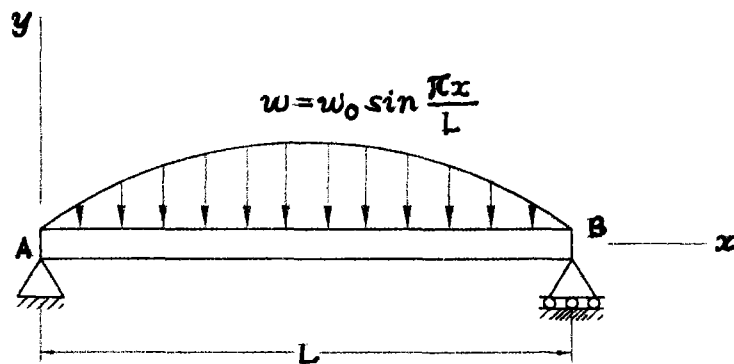

Figure 4/Gambarajah 4
4. For the beam and loading shown in **Figure 4**, determine:-